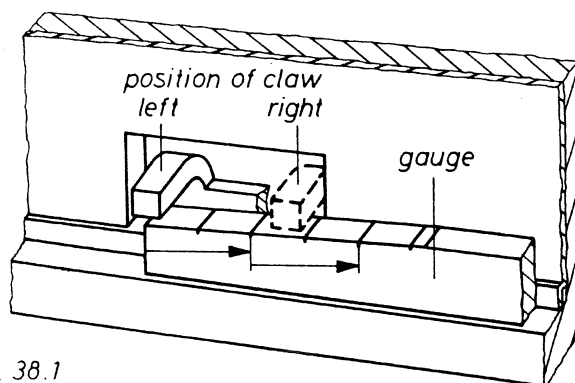

Fig. 38.1
- 3.6 Turn the intermediate wheel in such a way, that the claw emerges from the right claw opening. Insert the gauge 08-27.30 Z250 A2 under the claw; it should be possible to push it at least beyond the second, but not beyond the fourth graduation mark, underneath the claw (see Fig. 38.1).
Then check the positioning of the claw (see Fig. 38.1).